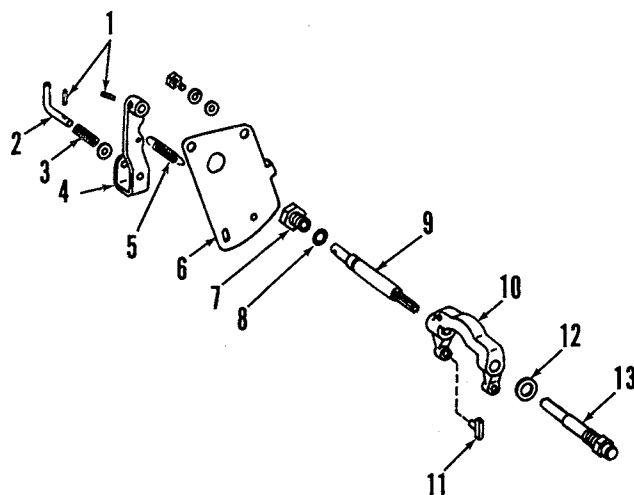

Fig. 181—Exploded view of tow disconnect shifter mechanism used on Model 4050. Other models are similar.
To remove park pawl assembly, first remove shafts (9 and 13—Fig. 181) from tow disconnect yoke. Disconnect park pawl return spring (7—Fig. 180). On models so equipped, pull shaft retaining pin (1) from transmission case. On all models, remove lock pawl shaft (2) rearward and lift out lock pawl (5). To remove park lock cam (8), drive spring pin (11) from arm (12). Remove arm and spring, then withdraw cam with thrust bearing from inside case.
157. TOW DISCONNECT. To remove tow disconnect mechanism, first remove reduction gear shaft as outlined in paragraph 158. Drive spring pin through disconnect shifter lever (4—Fig. 181). Remove stop plate mounting screws, then remove stop plate (6) and lever (4). Remove shaft (13) and special washer (12) from right side of transmission case. Remove shaft retainer (7), then pull shaft (9) out left side of transmission case. Lift out shifter yoke (10) with shoes (11) and shifter collar.